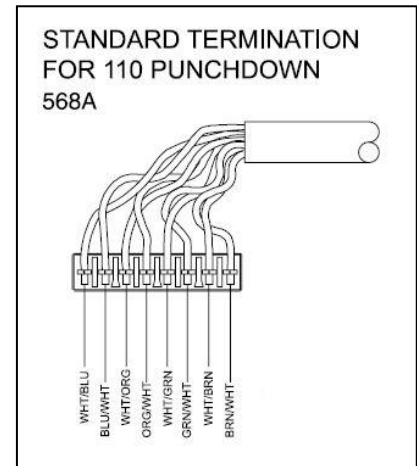

Figure 3
- B. Incoming Service Cable Connection (see **Figure 3**):
- 2) Strip off approximately 4 inches of the outer jacket and position the pairs over the color coded slots on the 110 strip (see **Figure 3**).